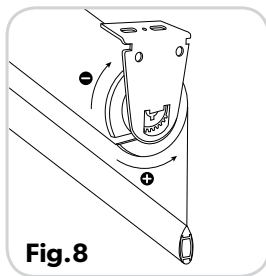

Fig.8
- A. To increase the tension on the spring, use the tension wheel by turning it 1-2 rotations (counterclockwise) on the left side of the shade. (Fig. 8)
- B. To decrease tension on the spring, use the tension wheel by turning it 1-2 rotations (clockwise). (Fig. 8) Continue Steps 3 or 4, checking the tension every 1-2 rotations until you have set the desired tension.